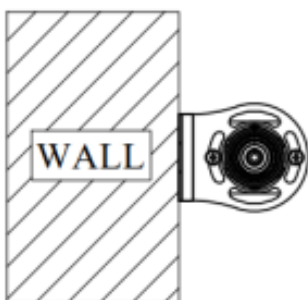

Figure 1
- The mount bracket is for the use of both Wall mount (Figure 1) and Ceiling mount (Figure 2).